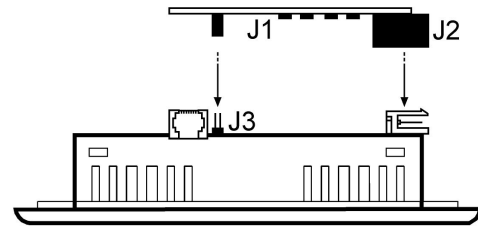

Figure 3. Installing the Module
6. Install the module by placing the J1 connector (female) of the module onto the J3 connector (male) on the controller card as shown in Figure 3. Make sure that the connection is secure.